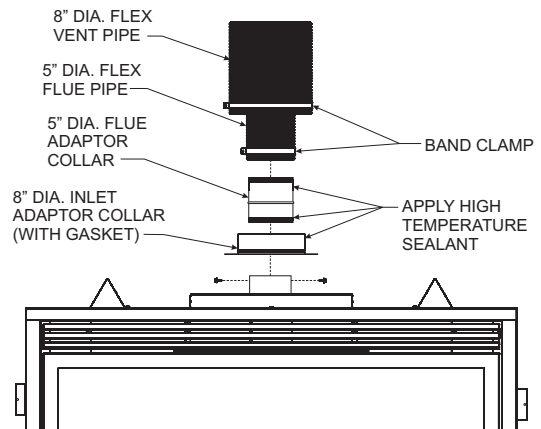

Figure 57
9. Apply sealant to the outside of the flue pipe adapter and connect to the flex flue pipe. Then insert the adapter into the fireplace flue. Secure flue adapter to the fireplace flue with a minimum of two screws provided. See Figure 57.